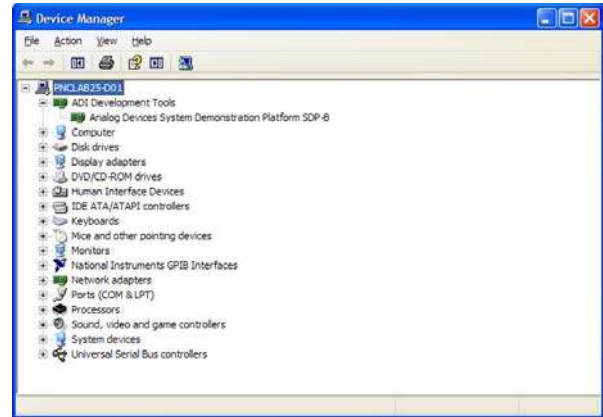

Figure 15. **Device Manager:**
- b. Under **ADI Development Tools**, **Analog Devices System Development Platform SDP-B** appears (see Figure 15), indicating the EVAL-SDP-CB1Z driver software is installed and the EVAL-ADAQ7980SDZ is connected to the PC correctly.